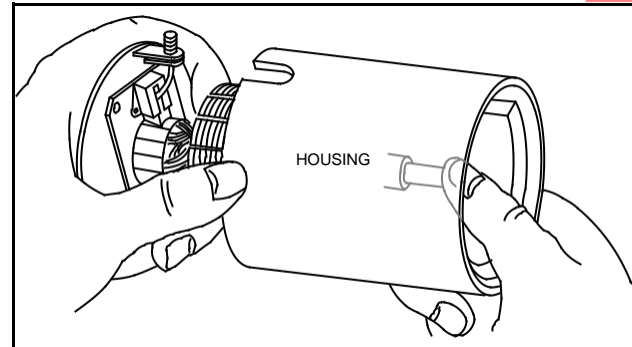

Fig. 674 - INSERTING ARMATURE
3. Support armature shaft and slide it slowly into housing, as shown in Fig. 674.